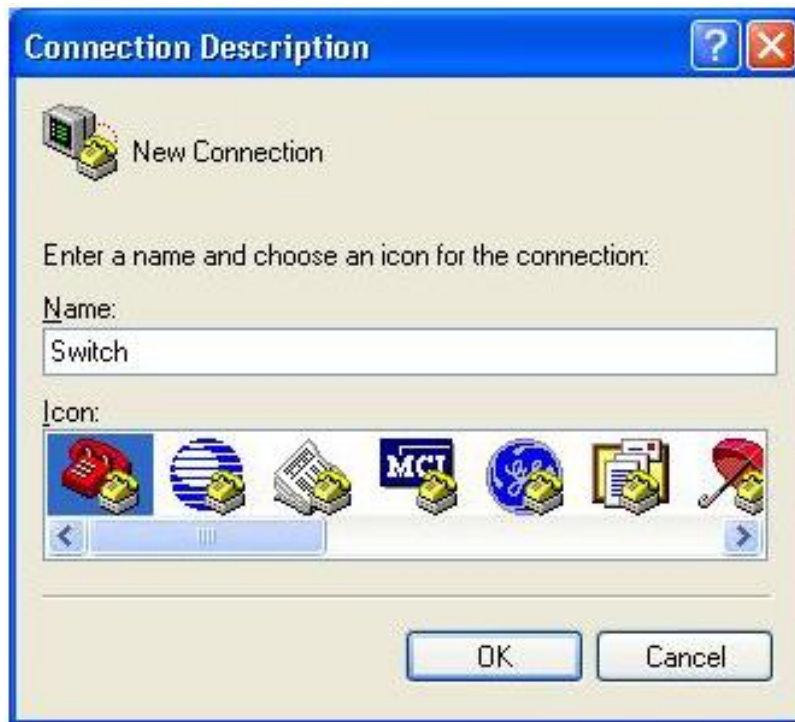

Figure 27 Creating a Connection
Step 3: Create a connection "Switch", as shown in Figure 27.